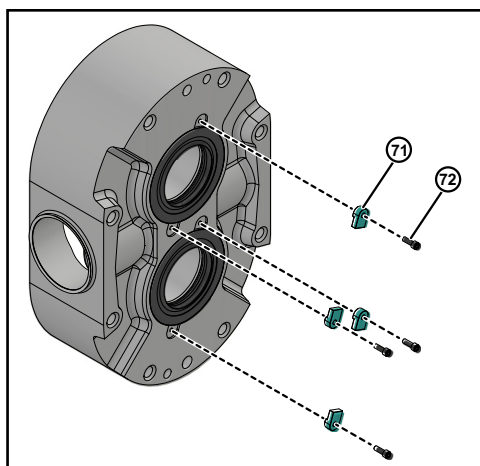

Figure 83 - Remove Screws and Retainer-tab
1. Remove all the retainer-tab bolts (72) and retainer-tabs (71) from the pump body, as shown in Figure 83. This is *applicable for model 006-130*.